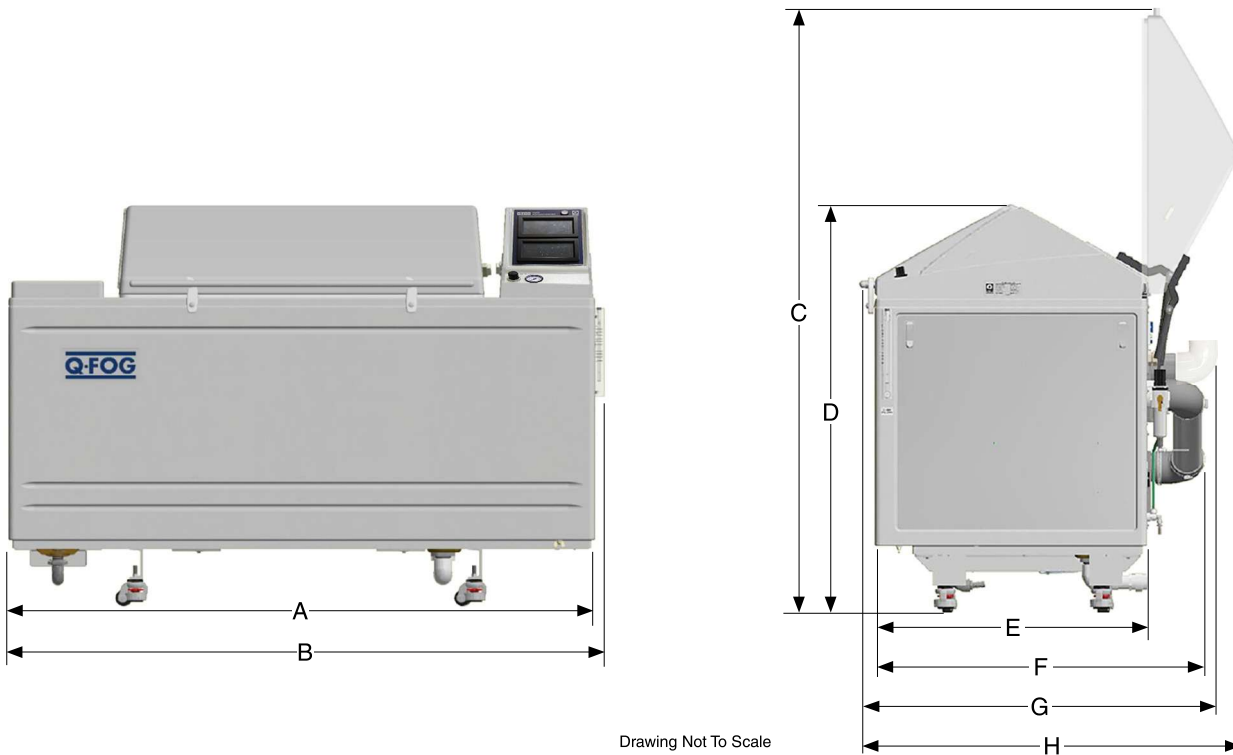

Figure 6.1a: Q-FOG external dimensions.
- Figure 6.1a shows the external dimensions of the Q-FOG SSP and CCT test chamber.